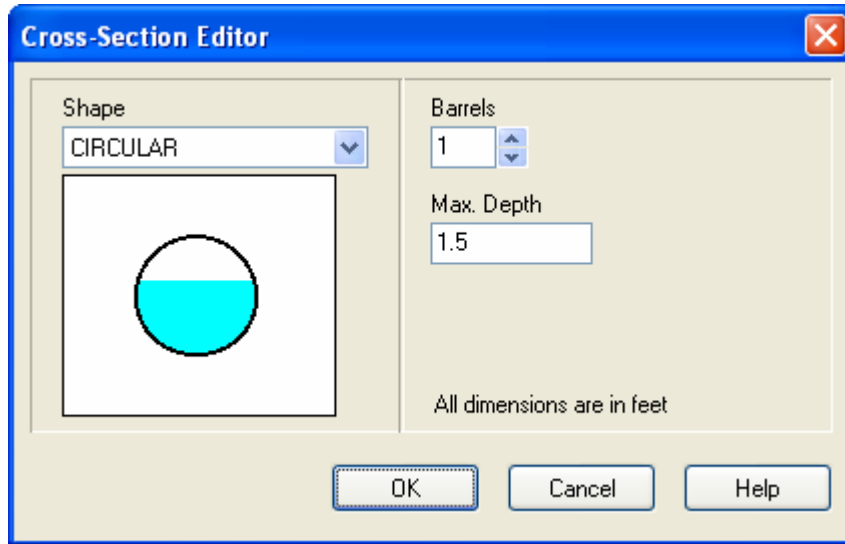

Figure 2-7. Cross-Section Editor dialog.
3. In the Cross-Section Editor dialog that appears (see Figure 2-7), set the Max. Depth value to **1.5** and then click the **OK** button.